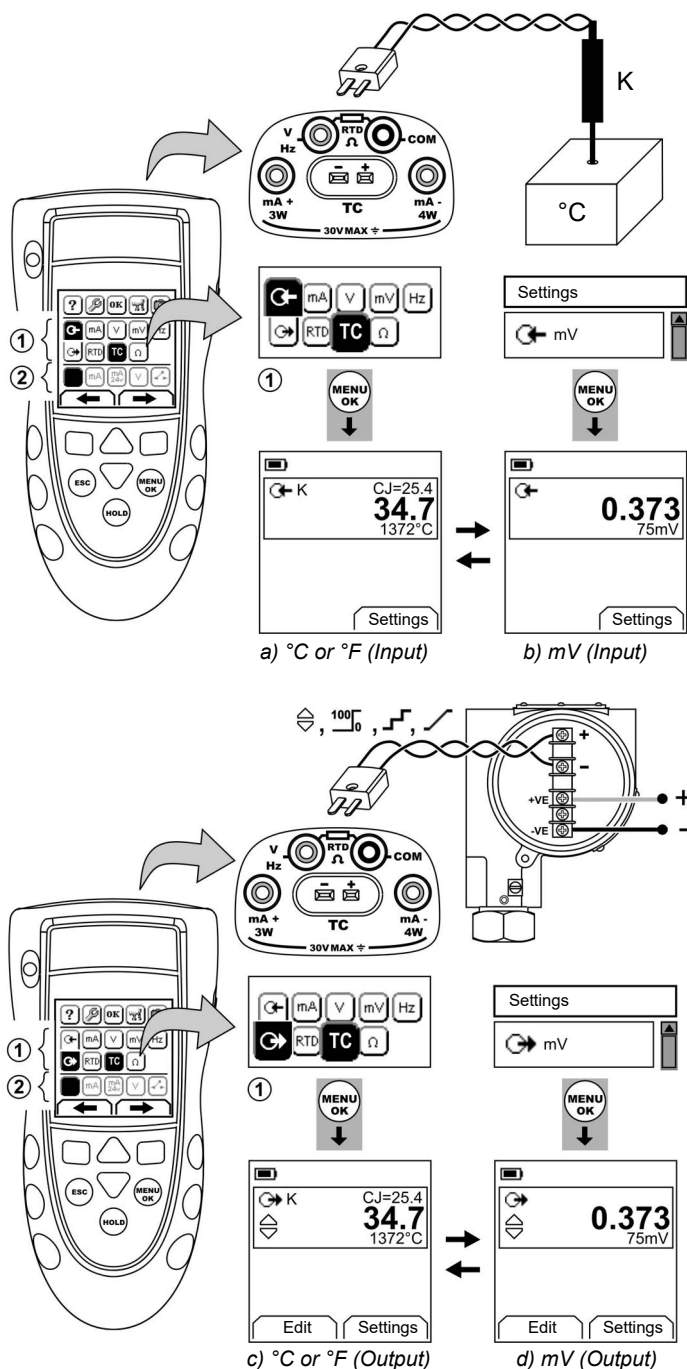

Figure 9: Example configuration - To measure/simulate the temperature (°C/°F) or mV values of a TC
Attach the TC wires to the applicable TC mini-connector (Figure 9). The wider blade is the negative. Then attach the connector to the instrument.
1. Connect the instrument (Figure 9) and, if necessary, adjust the *Set Up* (Table 1).